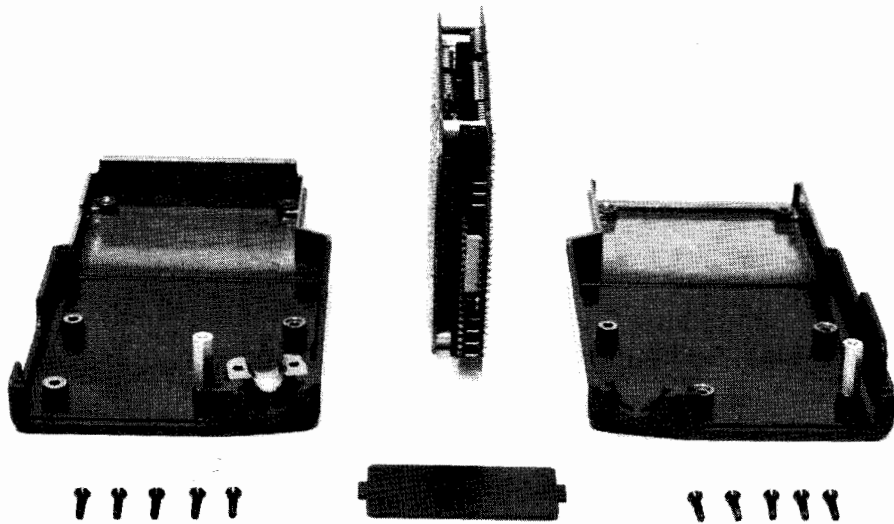

Figure 4-5. Removing the Interface Case
- Remove the interface from the system and remove the interface case as shown in Figure 4-5.